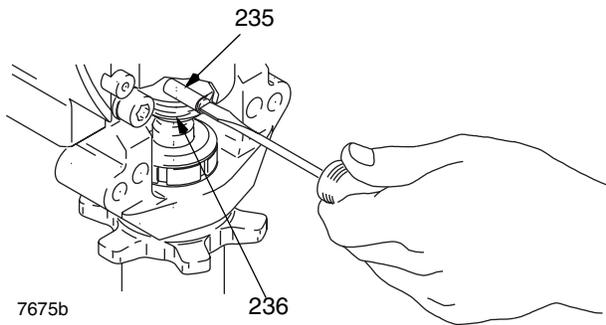

FIG. 1
3. Unscrew suction tube (34) from pump, hold wrench on pump intake valve (A) to keep pump from loosening.
4. Disconnect pump outlet hose (100) from displacement pump outlet nipple (60).
5. FIG. 1. Use screwdriver to push up retaining spring (236) at top of pump. Push out pin (235).